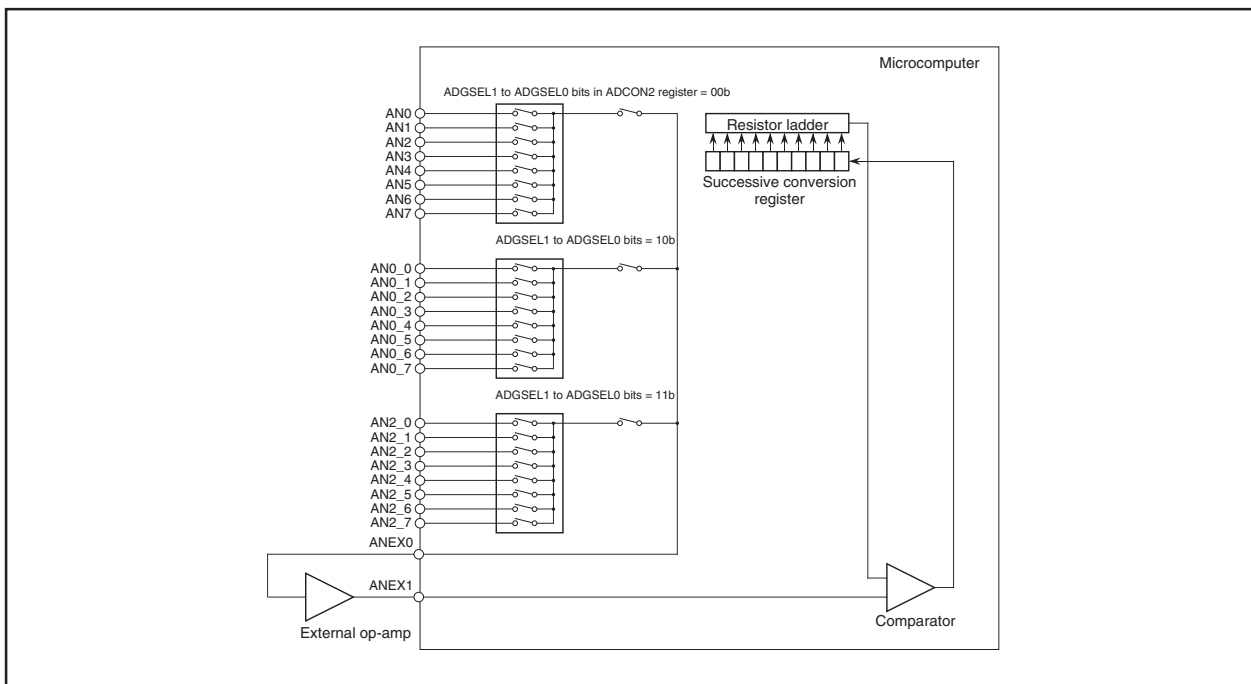

Figure 16.9 External Op-Amp Connection
Multiple analog inputs can be amplified using a single external op-amp via the ANEX0 and ANEX1 pins. Set the OPA1 to OPA0 bits in the ADCON1 register to “11b” (external op-amp connection mode). The inputs from ANi ( $i = 0$  to 7)(1) are output from the ANEX0 pin. Amplify this output with an external op-amp before sending it back to the ANEX1 pin. The A/D conversion result is stored in the corresponding ADi register. The A/D conversion speed depends on the response characteristics of the external op-amp. Figure 16.9 shows an example of how to connect the pins in external operation amp.